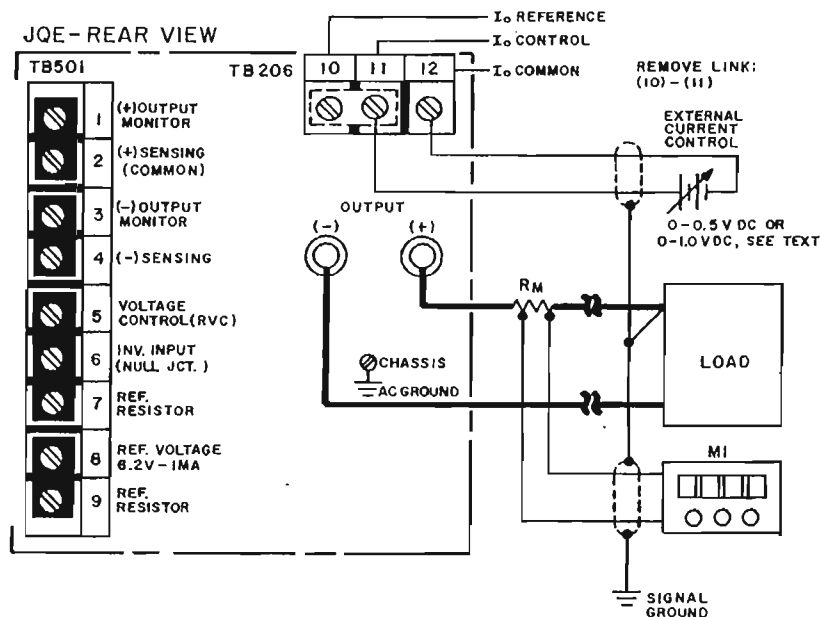

FIG. 3-17 CONNECTIONS FOR REMOTE CURRENT LIMIT CONTROL BY A D-C VOLTAGE SOURCE. (FOR JQE MODELS WITH OPTION "Y" ONLY)
3-67 GENERAL. The output current of the JQE Power Supply can be externally controlled by connecting a variable d-c voltage source to the programming terminals as shown in FIG. 3-17. The external control voltage should be as follows:
- 1) Connect the voltage source, with a shielded cable to the programming terminals as shown in FIG 3-17. DO NOT REMOVE THE JUMPER LINK (10)–(11) AT THIS TIME.
- 2) Connect the shield (single ended) to the selected signal ground. Connect external ammeter, or voltmeter with precision shunt, as shown in FIG. 3-17.
- 4) *Now, disconnect the jumper link* (10)–(11) on TB201, connect JQE to the a-c power source and turn a-c source power "on." Vary the external d-c control voltage while monitoring the output current on the JQE Power Supply on M1 in FIG. 3-17. The output current should change from approximately zero to the maximum output current as set in step (3), as the programming voltage is varied from 0 to 0.5 volt (0–1 volt for JQE 6–90). *Remove the short circuit across the load.*
- 1) Connect an accurate ammeter, or a measuring resistor ( $R_M$  in FIG. 3-17) and a digital voltmeter, in series with the load. NOTE:  $R_M$  is selected according to the available meter. A linear readout can be achieved by selecting  $R_M$  to drop 1 volt at the maximum output current, for example.